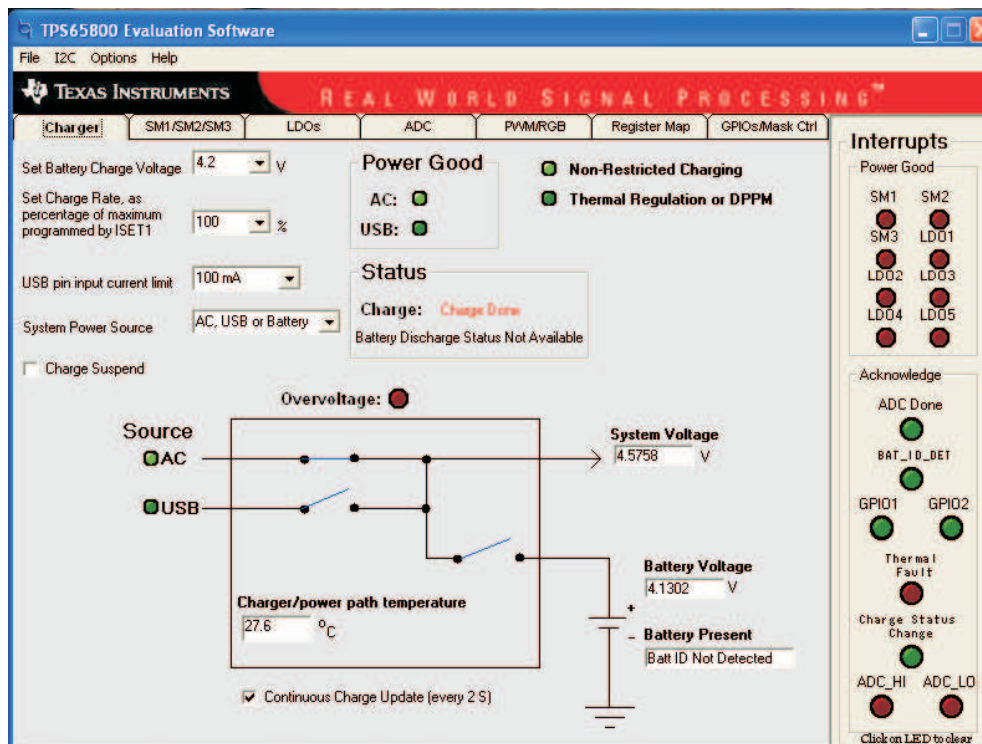

Figure 3. Charger Section
The charger section allows the user to monitor and control the charger functions of the TPS65800/810/820/825 (see Figure 3). The TPS65820/825 IC has a unique feature on power up. After the 150-ms USB boot-up, the PMIC defaults to battery power unless the CE pin is written high prior to the boot-up expiring. The CE pin is at address 9\_B0 and is changed via I2C. If the battery is not present and CE is not written high prior to the end of the boot-up, then the system crashes because the BAT pin cannot supply the power. The following controls are available.
- Dynamic Power Path Management (DPPM) – Powers the system via AC, USB, and/or BAT (see the diagram in Figure 3).